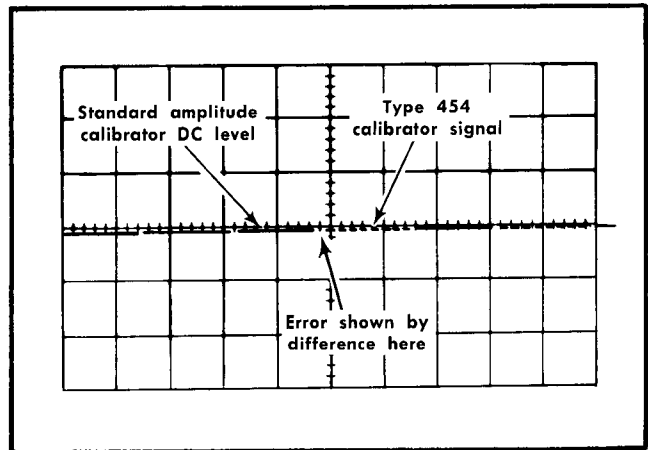

Fig. 5-33. Typical CRT display when checking voltage output of calibrator.
- g. CHECK—Difference between the standard amplitude calibrator output level and the Type 454 calibrator output 0.1 division or less (one volt, $\pm 1\%$; see Fig. 5-33).